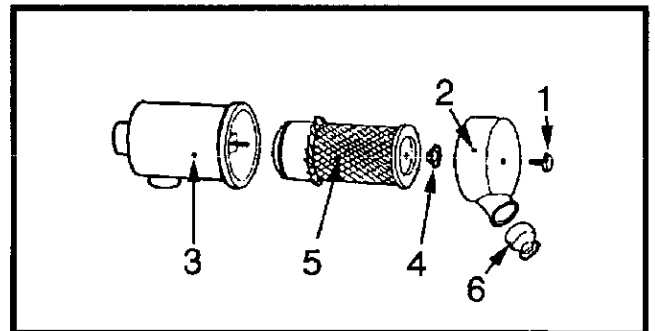

Figure 5-2 Air Cleaner Internal Breakdown
1. Loosen the wing nut (1, Figure 5-2) and remove the dust cover (2, Figure 5-2). Perform a quick check to see that vacuator valve (6, Figure 5-2) is not inverted, damaged or plugged.
2. Remove wing nut (4, Figure 5-2) and gently withdraw element (5, Figure 5-2).
3. Clean the inside of the cover (2, Figure 5-2) and housing (3, Figure 5-2) with a clean, damp cloth to remove any dirt accumulation.
4. Check that vacuator valve (6, Figure 5-2) on air cleaner is clean and that rubber is not cracked.
2. Ensure wing nut (4, Figure 5-2) is not cracked or damaged. Replace if required.
4. Install the dust cover and wing nut (1, 2, Figure 5-2).
2. Check that vacuator valve (6, Figure 5-2) on air cleaner is clean and that rubber is not cracked.